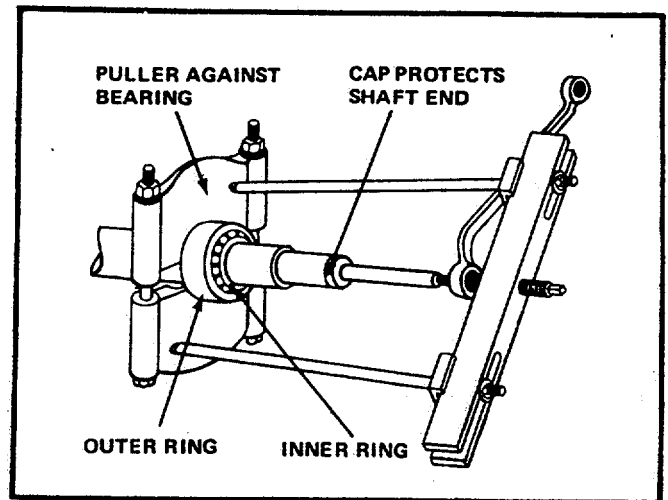

Figure 11-15. Removing Bearing from Generator Shaft
- (g) Remove nut (85) and lockwasher (86).
- (h) Use a puller to remove the bearing from the shaft. (See figure 11-15.) Protect the shaft end with a cap. If bearing is to be used again, make sure puller applies pressure only against the bearing inner ring.
- (1) Bearing Inspection. The following inspection of the bearing should be made: Results of the inspection will determine if the bearing is to be replaced.
- (b) Remove PMG rotor (37) by removing pin (36), screw (35), and washer (34).
- (c) Loosen setscrew (52) in exciter rotor (38).
- (d) Remove exciter rotor (38).
- (e) Remove screws (82) and washers (83) to free bearing cap (84)
- (f) Attach crane or hoist to endbell (85). Remove screws (80) and washers (81). Remove endbell (85) and PMG stator and exciter stator as a unit.
- (g) Remove nut (86) and lockwasher (87).
- (h) Use a puller to remove the bearing from the shaft. (See figure 11-15.) protect the shaft end with a cap. If bearing is to be used again, make sure puller applies pressure only against the bearing inner ring.
- (i) Install pipes over generator shaft on the drive and exciter end of rotor. Attach slings and hoist to pipes and remove rotor assembly (89) from stator and frame (93). Make certain air gap is maintained between the rotor and stator during removal of the rotor.